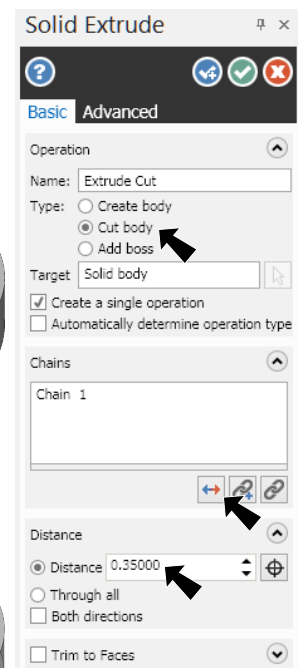

Fig. 36
Step 5. In Extrude function panel, Fig. 36